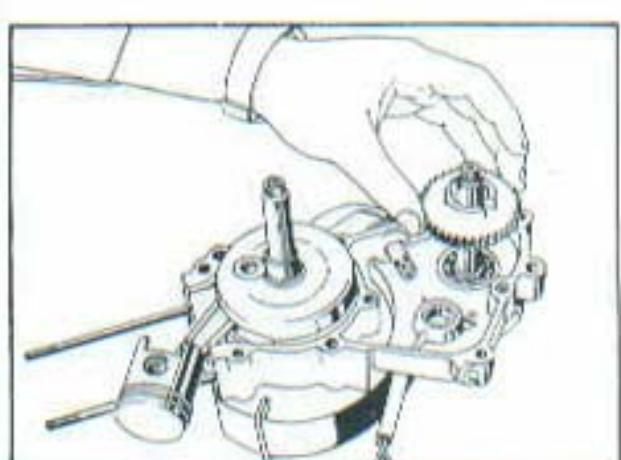

FIG. 16
- c) Remove drive gear - Fig. 16